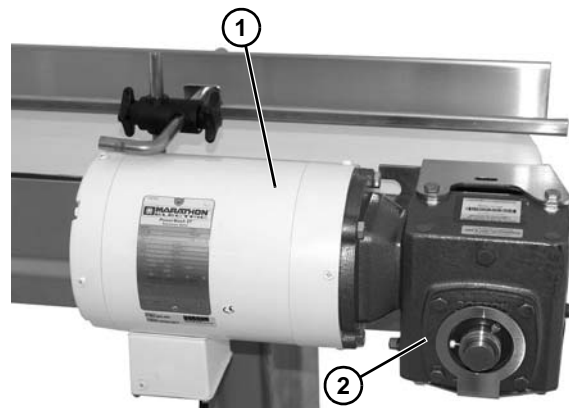

Figure 30
- Attach the motor (Figure 30, item 1) to the gear reducer (Figure 30, item 2).